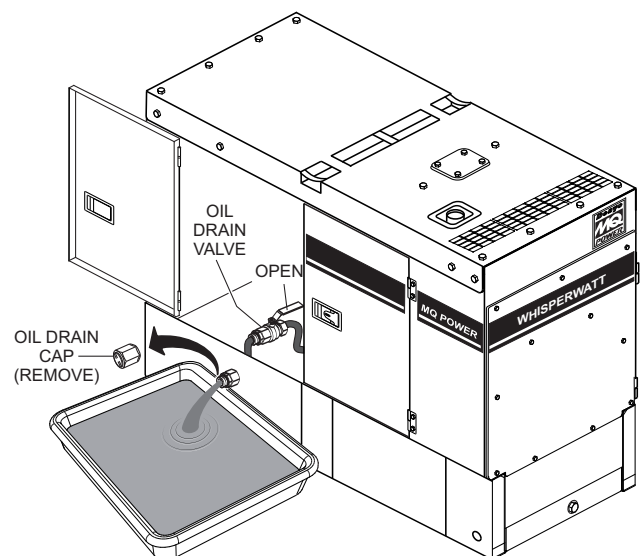

Figure 63. Draining Engine Oil
3. Next, remove the **oil drain cap** (Figure 63).